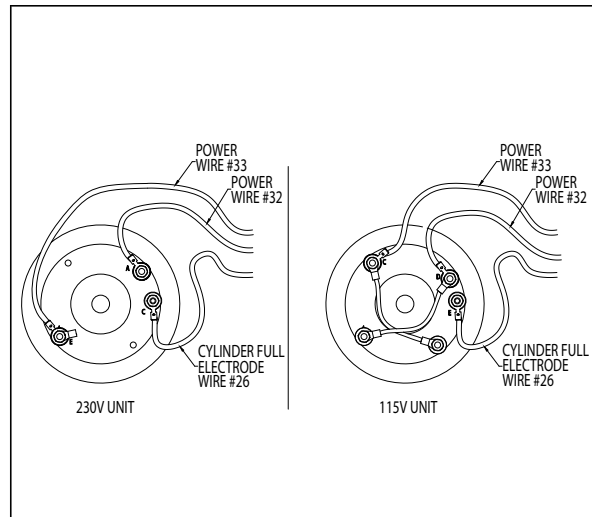

Figure 11B
2. Turn off power to the unit at the external disconnect. Disconnect electrode power wires (#32 & #33) and cylinder full electrode wire (#26) from the tank. These connections are 1/4" quick connects. (See Figures 11B, 11C, and 11D.)
7. Reconnect electrode power wires (#32 & #33) and cylinder full electrode wire (#26). Make sure that all electrical connections are securely tightened. (See Figures 11B, 11C, and 11D.) Replace cover and four screws.
| | Check cylinder connections. (See Figure 11B.) |